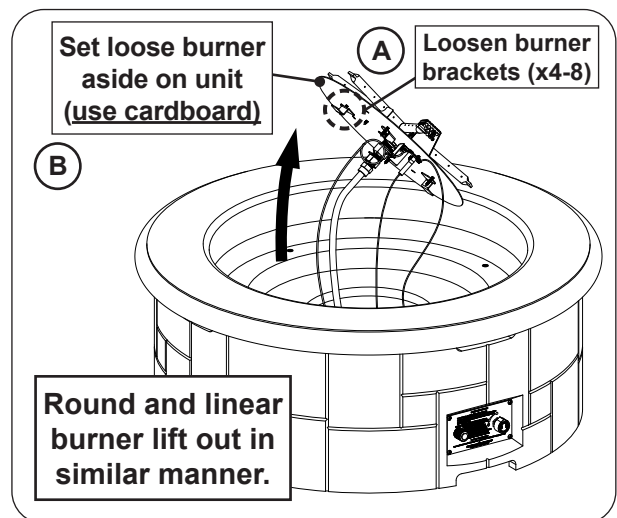

Fig. 28-2 Gain access to interior of unit
2. Use a $\frac{5}{16}$ " nut driver to loosen the 4-8 screws found on the burner assembly (see Fig. 28-2, A).
3. Carefully lift out the burner just enough to set it off to the side (see Fig. 28-2, B).